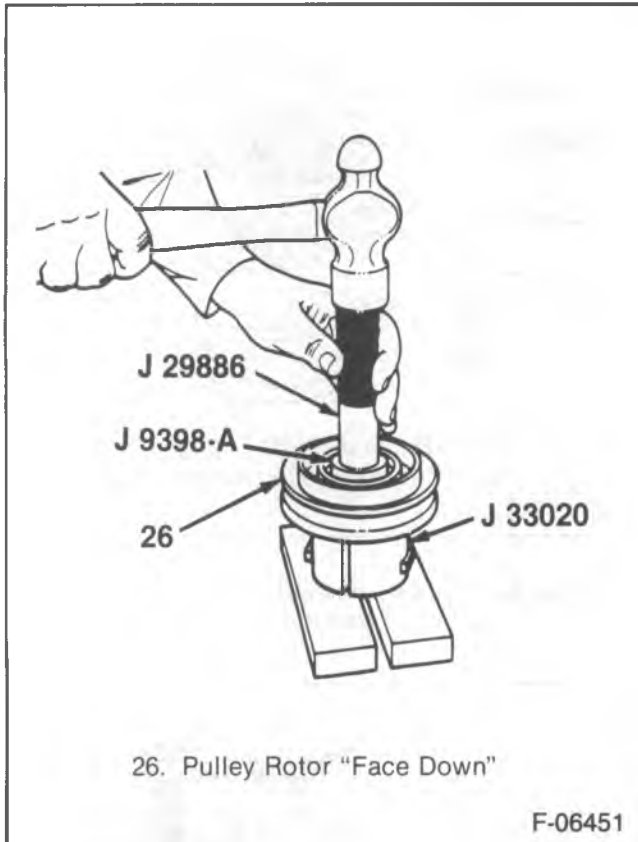

Figure 11—Removing the Bearing from the Pulley Rotor Assembly
4. Pulley bearing (25) from the pulley (26) using J 9398-A and J 29886 (figure 11).
with the puller tangs still in place in the pulley slots, turn the assembly upside down onto a flat surface (figure 11).